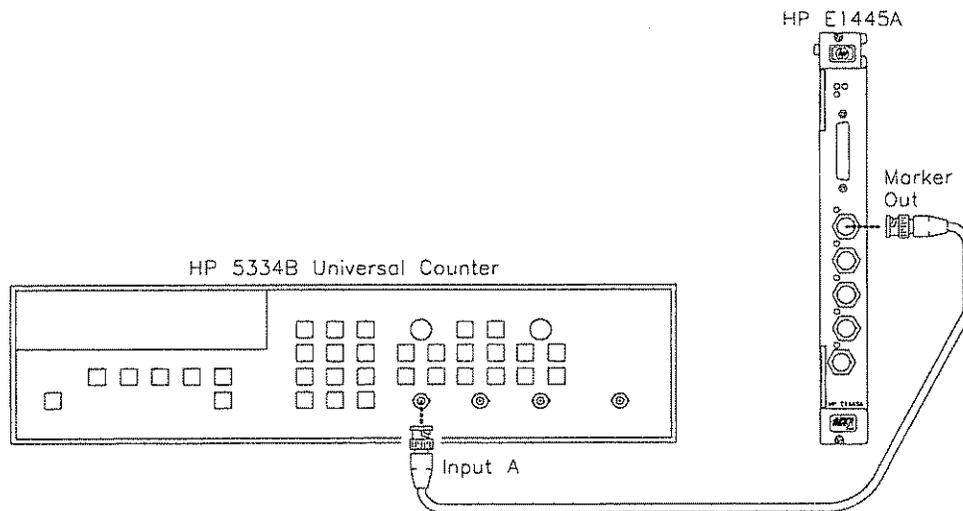

Figure 2-8. Equipment Setup for Test 2-7
- Connect equipment as shown in Figure 2-8